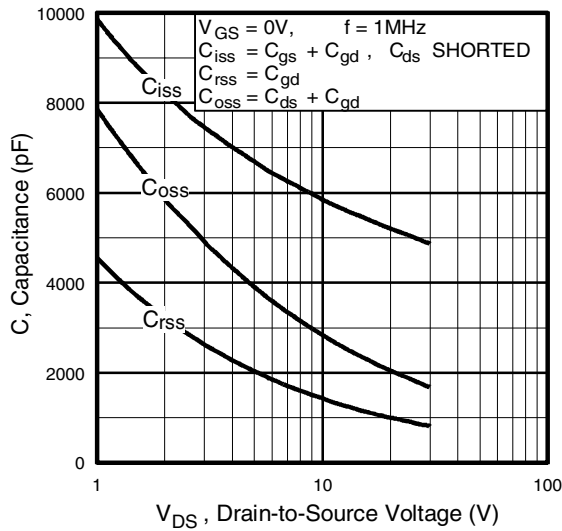

Fig 5. Typical Capacitance Vs. Drain-to-Source Voltage
| C _{rss} | Reverse Transfer Capacitance | — | 880 | — | | f = 1.0MHz, See Fig. 5 ^⑤ |